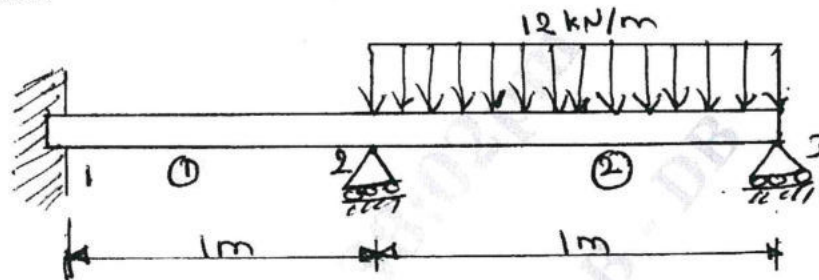

Fig.Q5(b)
b. For the beam and loading shown in Fig.Q5(b), determine the slopes at 2 and 3 and the vertical deflection at the midpoint of the distributed load. Take $E = 200 \text{ GPa}$, $I = 4 \times 10^6 \text{ mm}^4$.